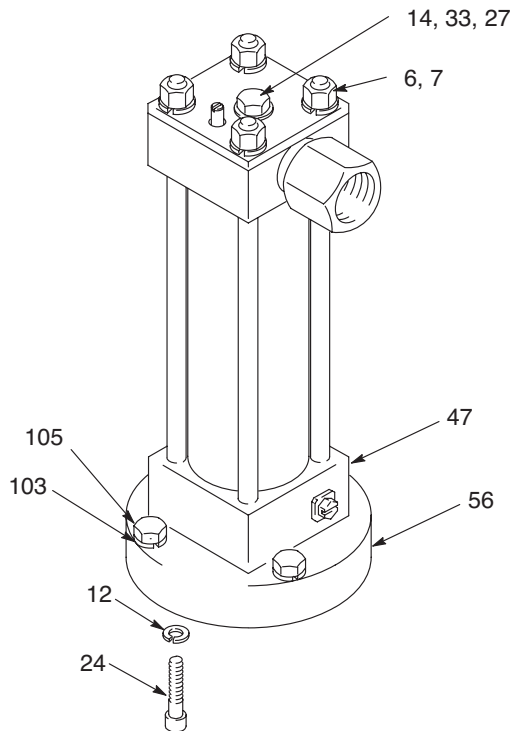

FIG. 6
- Remove the capscrew (14), nuts (7), and lockwashers (6) on the top of the reciprocator. (FIG. 6)
- Remove the four capscrews (24) and the retainer housing (56). Tap the retainer housing with a plastic mallet to loosen it and pull it off the bottom cap (47). (FIG. 6) If needed, replace the throat seals as described on page 11.